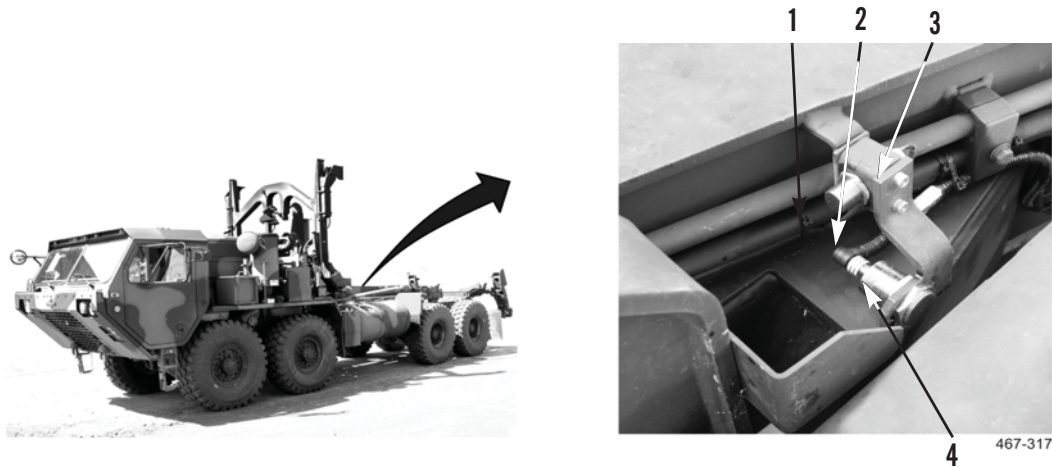

Figure 1. Hook Arm Sensor.
1. Disconnect electrical connector (Figure 1, Item 1) from hook arm sensor (Figure 1, Item 2).
2. Remove locking nut (Figure 1, Item 4) from hook arm sensor (Figure 1, Item 2)
3. Remove hook arm sensor (Figure 1, Item 2) from bracket (Figure 1, Item 3).